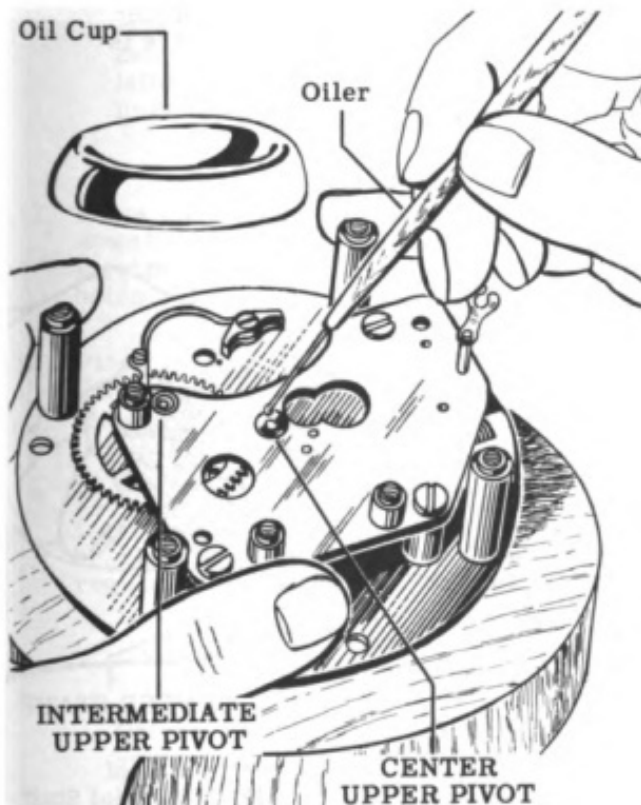

Figure 59
8. Oil the center wheel and the intermediate wheel upper pivots. See Fig. 59 and refer to "Clock Movement Lubrication" in the Control Manual.